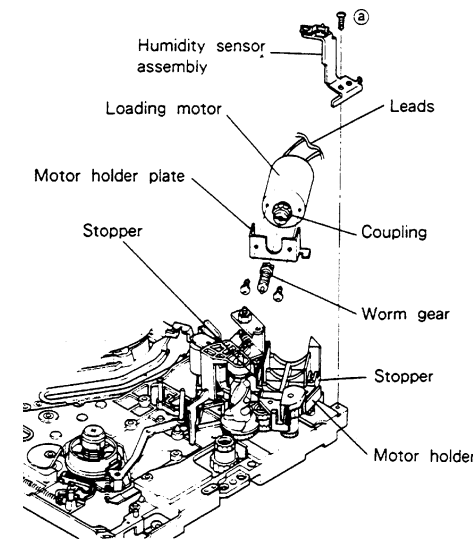

Fig. 2-7-1
2-7-1 Removal (Refer to Fig. 2-7-1, 2-7-2.)
- Unscrew the humidity sensor assembly fastening screw (a) and remove the humidity sensor assembly. (Refer to Fig. 2-7-1.)
2-7-2 Installation (Refer to Fig. 2-7-1~2-7-3.)
- Fasten the humidity sensor assembly with the fastening screw (a).(Refer to Fig. 2-7-1.)